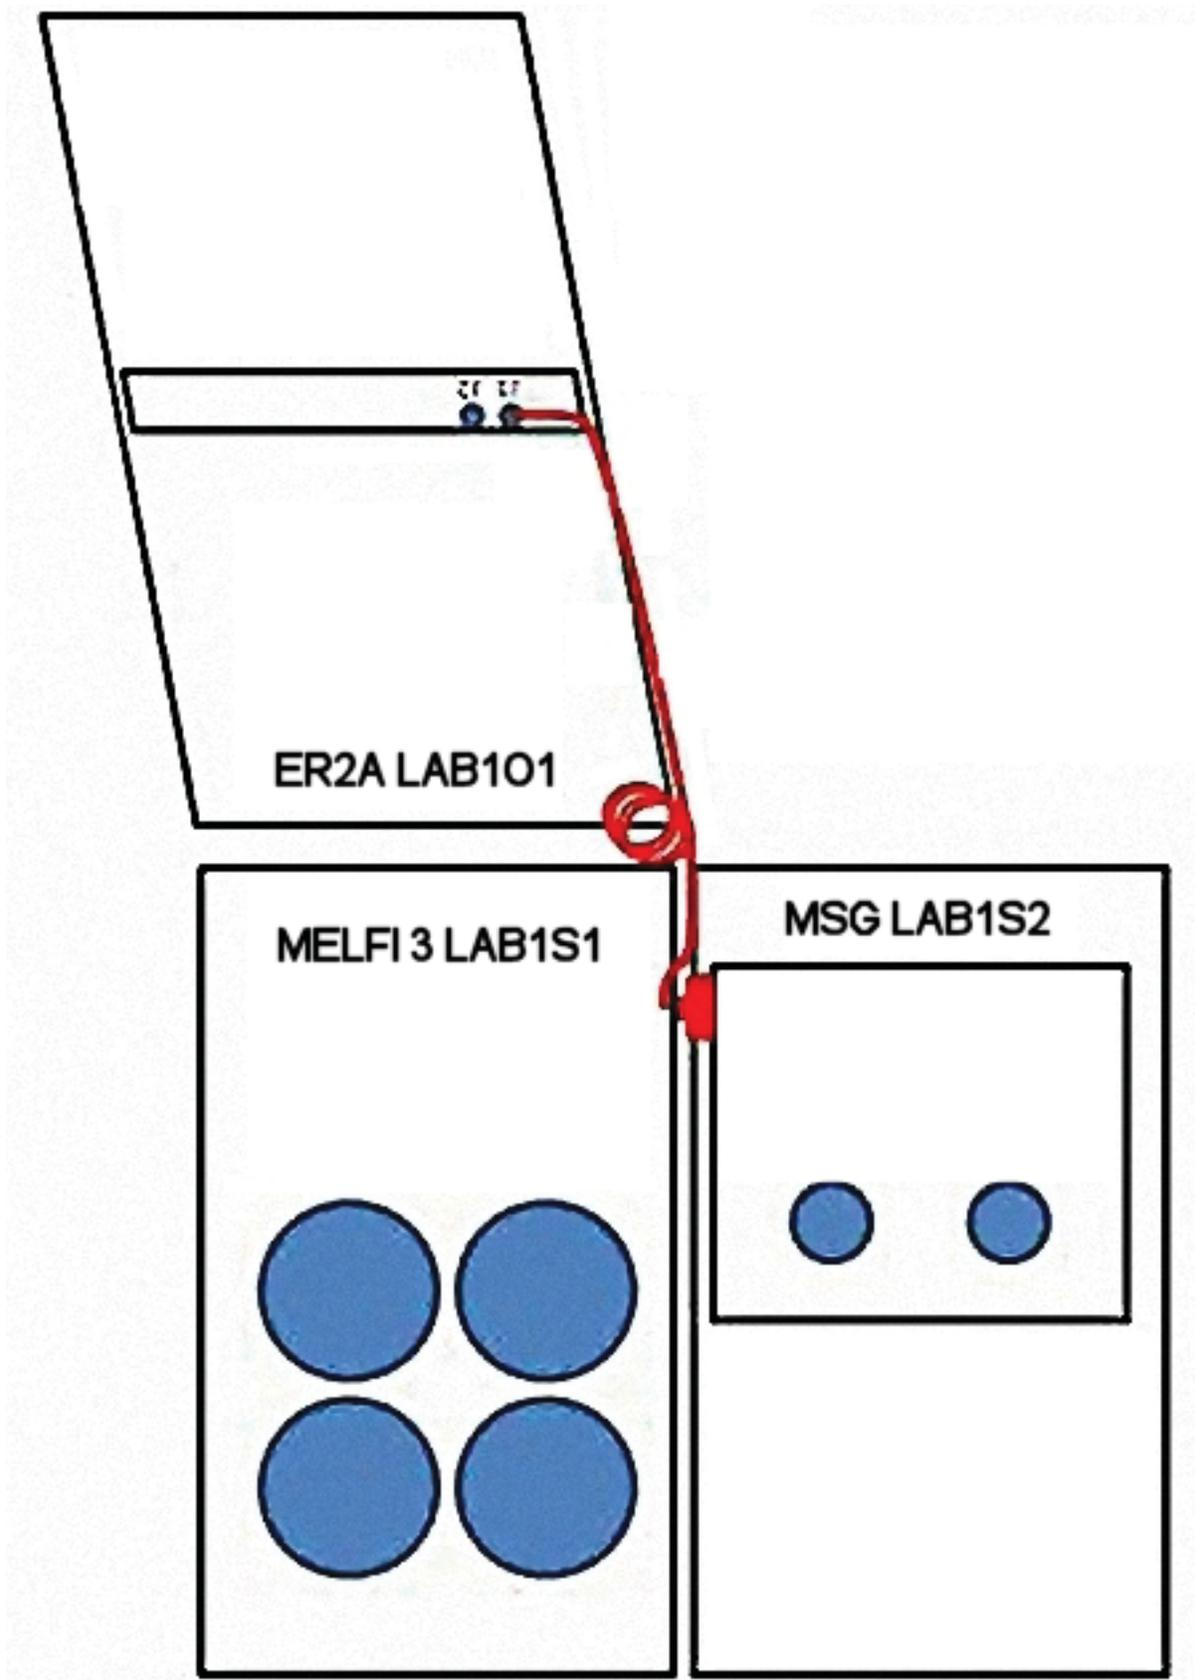

Figure 6. SAMS cable routing to MSG
4.2 Route SAMS Cable Assy up the EXPRESS Rack 2 aft seat track and across to MSG fwd seat track to the SAMS SE (Figure 6). Coil excess cable near the top of EXPRESS Rack 2. Secure SAMS Cable Assy with velcro ties as necessary.